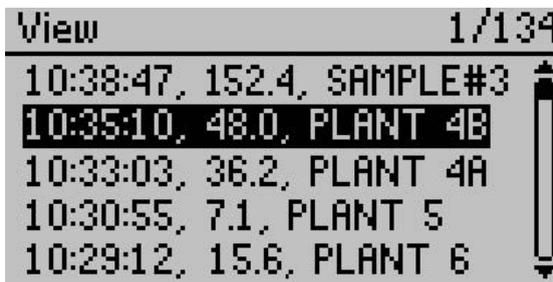

Figure 17 View data screen
3. Scroll through the list of saved tests using **UP** and **DOWN** (Figure 17).